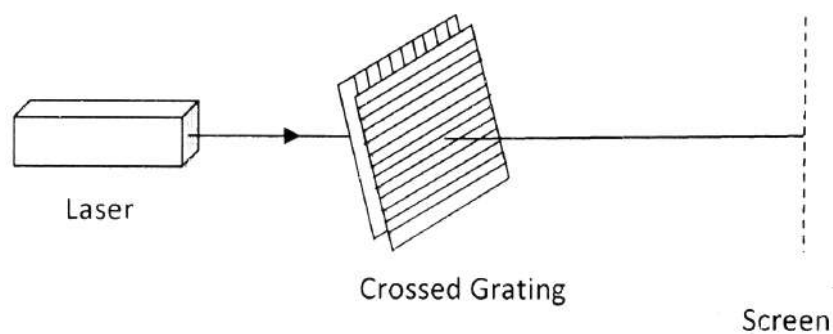

**Fig. 1.** Experimental setup for observing diffraction pattern from a grating probed by a laser beam.
(ii) Place the first grating in the path of laser beam as shown in Fig. 1 and try to observe the diffraction pattern (pattern is shown in Fig. 4). Now rotate the grating by  $90^\circ$  from its previous position and again try to observe the diffraction pattern (pattern is shown in Fig. 5).
**Fig. 2.** Experimental setup for observing diffraction pattern from a grating rotated by  $90^\circ$  from its previous position (shown in Fig. 1) and probed by a laser beam.